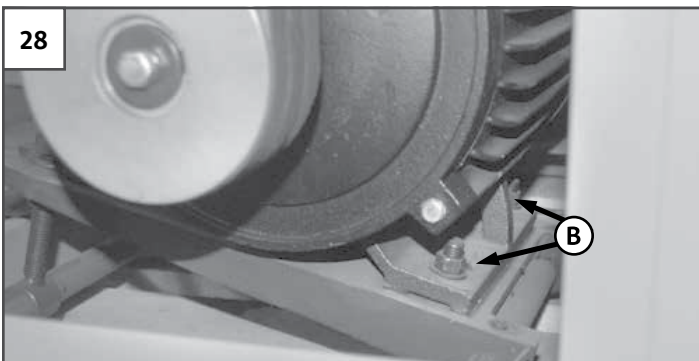

FIGURE 28: ALIGNING DRIVE PULLEYS
2. Loosen the two **NUTS (B)** and the four **NUTS (C)** using 24 mm and 14 mm wrenches. See Figures 28 and 29.
4. Retighten the four **NUTS (C)** and the belt tension **NUTS (B)**. Check tension by pushing the belt with your finger. The belt should not move more than 1/2".